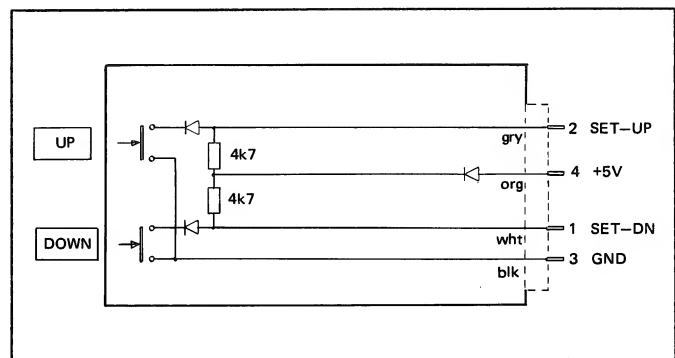

Fig. 3.11
- Connect auxiliary circuit to connector J6 of SYSTEM CONTROL as illustrated in Fig. 3.11